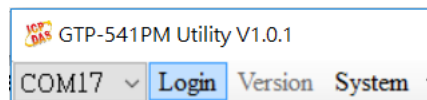
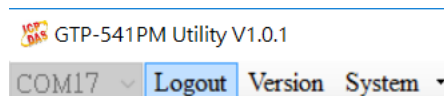

Figure 5.10.2
Figure 5.10.3
B. Click “Login” on the Utility screen. As shown in Figure 5.10.2, if the connection is successful, the “Login” button will change to “Logout”, as shown in Figure 5.10.3